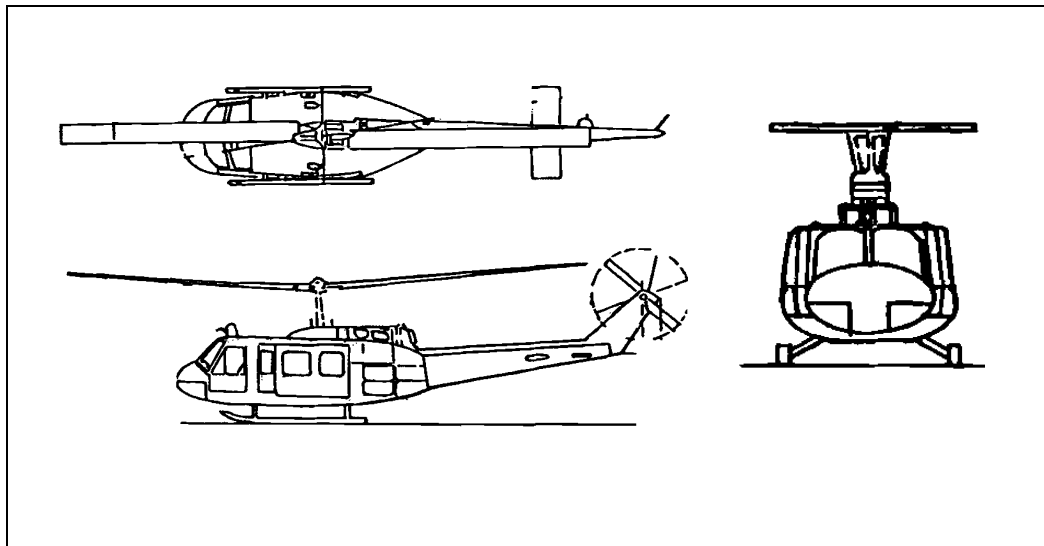

Figure B-5. UH-1H (Iroquois).
a. **UH-1H Iroquois.** Table B-5 shows specifications for the Iroquois; Figure B-5 shows the aircraft from three angles: